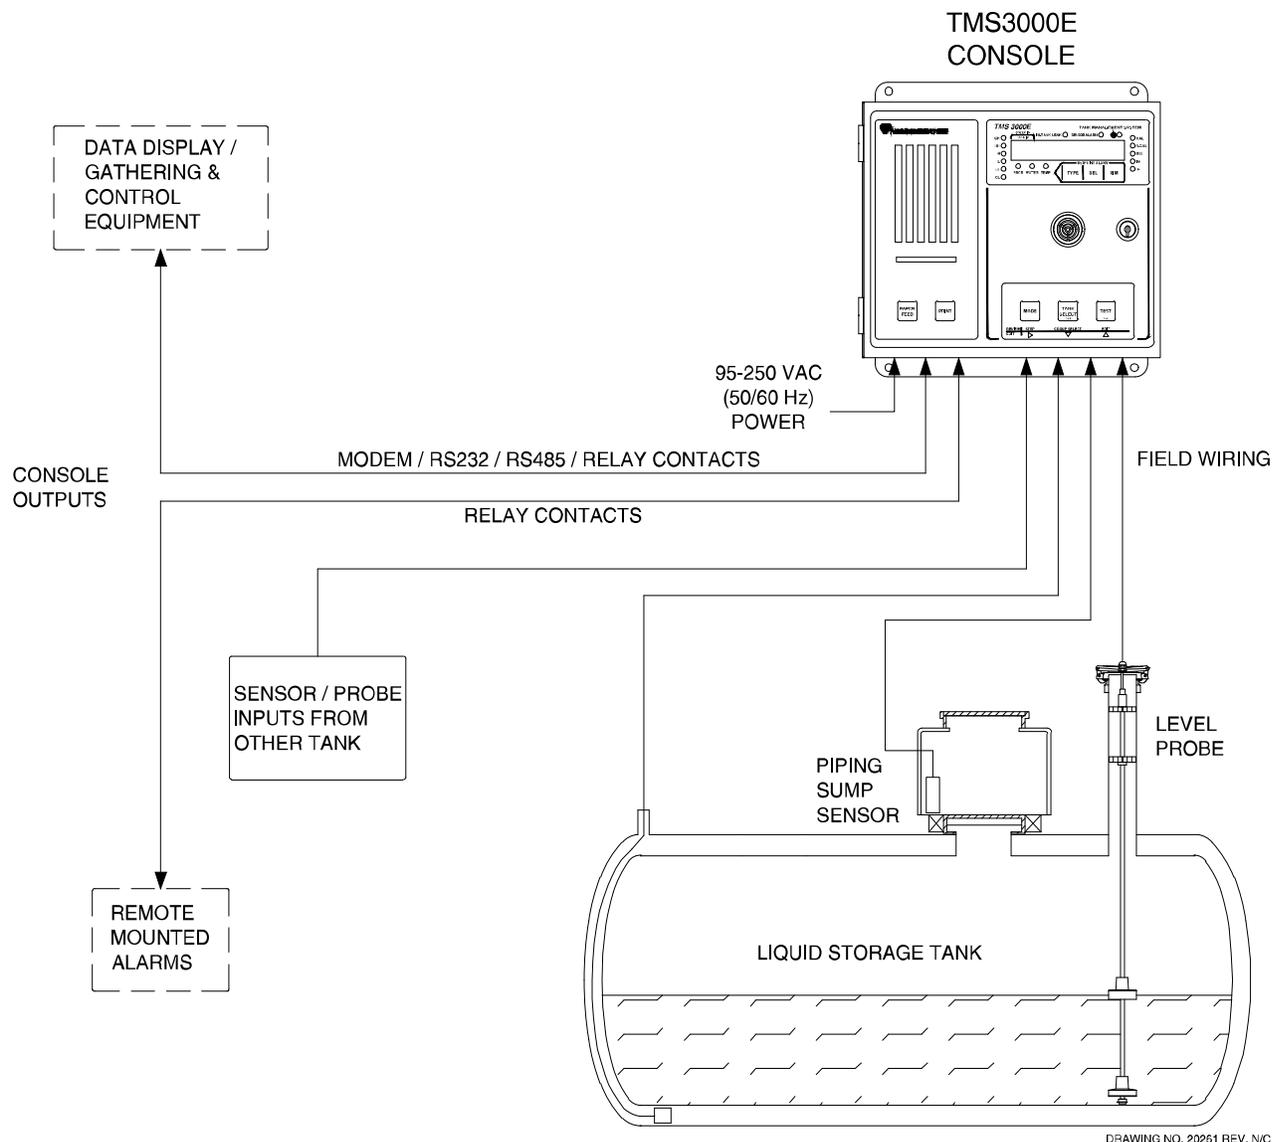

Figure 1-1 - Typical System Block Diagram
The TMS3000E is a fully integrated tank monitor system that combines level measurement with precision in-tank leak detection and external sensors for secondary containment. Figure 1-1 shows a typical block diagram of how a system should be configured for installation. This diagram is not a detailed wiring diagram, which is found in Section 3 of this manual. Figure 1-1 is to guide the installer in planning the actual installation, and give a general overview of the possible combinations of TANKS, LEVEL PROBES, EXTERNAL SENSORS, and OPTIONAL equipment that may be required for a typical installation. Figure 1-1 shows only one (1) tank with three (3) sensors: however, TMS3000E can monitor up to 12 tanks and 48 sensor combinations. Refer to the specific design drawing for the customer's actual site for complete site-specific details on how many tanks and sensors are specified.